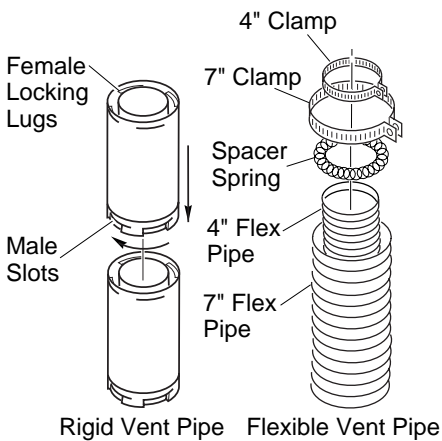

Figure 11 - Vent Pipe Connections
2. Rigid vent pipes and fittings have special twist-lock connections. Assemble the desired combination of pipe and elbows to the appliance adaptor with pipe seams oriented towards the wall or floor. **Twist-lock Procedure:** The female ends of the pipes and fittings have four locking lugs (indentations). These lugs will slide straight into matching slots on the male ends of adjacent pipes and fittings. (All connections must be sealed with high temperature silicone sealant as specified in the second warning statement on page 7.) Push the pipe sections together and twist one section clockwise approximately one-quarter turn until the sections are fully locked. See Figure 11, page 9. *Note:* Horizontal runs of vent must be supported every three feet. Use wall straps for this purpose.
Flexible vent pipe must be installed with spacer springs every 12". See Figure 11, page 9. All connections must be clamped tightly and sealed with high temperature silicone sealant as specified in the second warning statement on page 7.
2. Assemble the desired lengths of pipe and elbows necessary to reach from the fireplace flue up through the firestop. All connections must be sealed with high temperature silicone sealant as specified in the second warning statement on page 7. Be sure all pipe and elbow connections are fully twist-locked (see Figure 11, page 9).